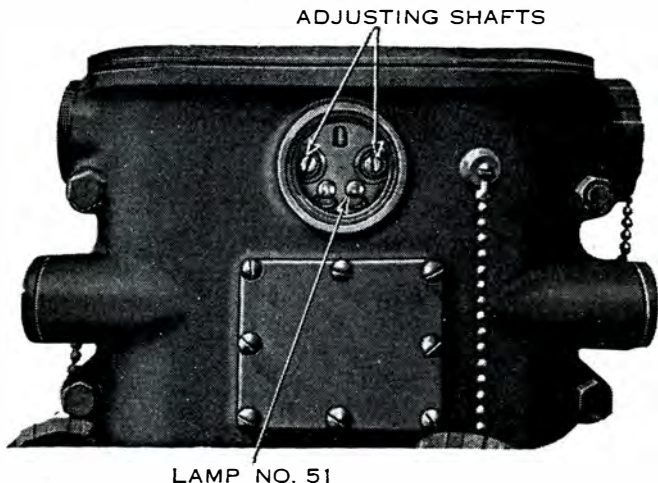

Figure 22. Indicator, synchronizing adjusting shafts.
c. Synchronization. (1) Synchronization is the setting of the electrical dials which receive the azimuth (or elevation) so that they indicate the same data that are set on transmitters in the plotting room.
(2) Energize the system. This is usually done from the plotting room.
(3) Set the transmitter at a known value and check to see that the receiver indicates the same value. If it does not, adjust the indicator as in (4) below.
(4) Remove the signal lamp well cover and turn the slotted adjusting shafts (fig. 22) until the dials are properly set. The adjusting shafts should not be forced against their stops. If sufficient adjustment cannot be made in this manner, or if there is a large